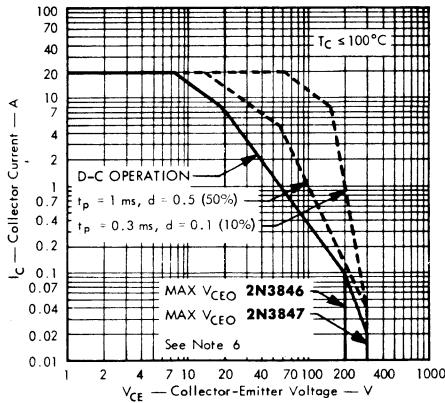

FIGURE 7
- NOTES: 1. This value applies only when the collector-emitter voltage is applied with the transistor in the off-state and the base-emitter diode is open-circuited or reverse-biased. In operation, the limitations of Figure 7 must be observed.